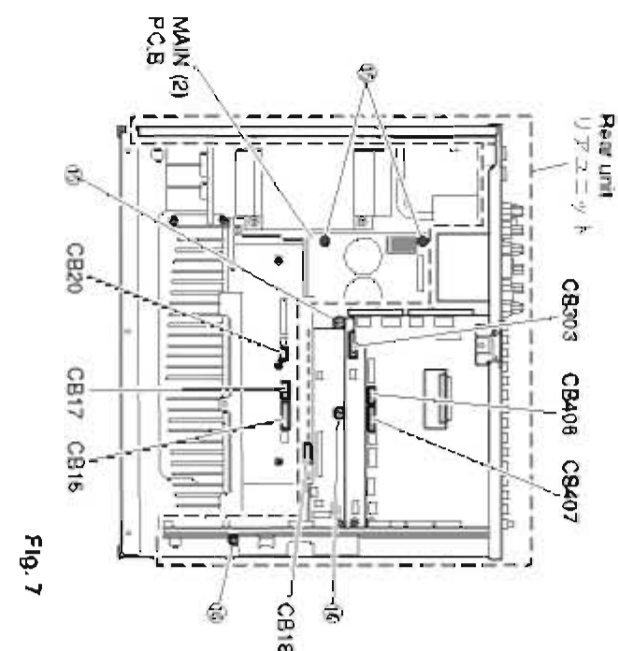

Fig. 7
- b. Remove 4 screws (12), 1 screw (13) and 1 screw (12). (Fig. 7)
- c. Remove CB16-18, CB20, CB303, CB406 and CB407. (Fig. 7)
- d. Remove the rear unit and MAIN (2) P.C.B. (Fig. 7)
- b. ⑫のネジ4本、⑬のネジ1本、⑭のネジ1本を外します。(Fig. 7)
- c. CB16-18、CB20、CB303、CB406、CB407を外します。(Fig. 7)